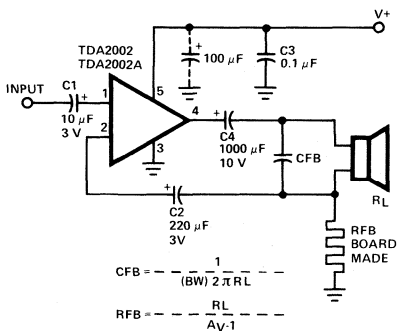

Fig. 21
P.C. BOARD AND COMPONENT LAYOUT FOR THE CIRCUIT OF FIG. 21 (1:1 SCALE)